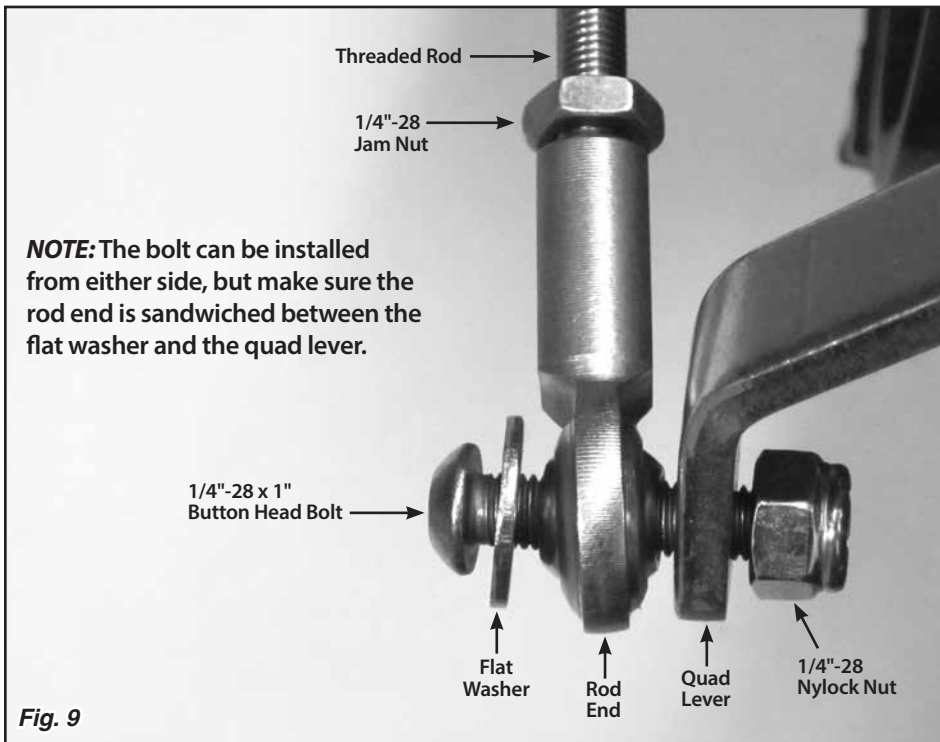
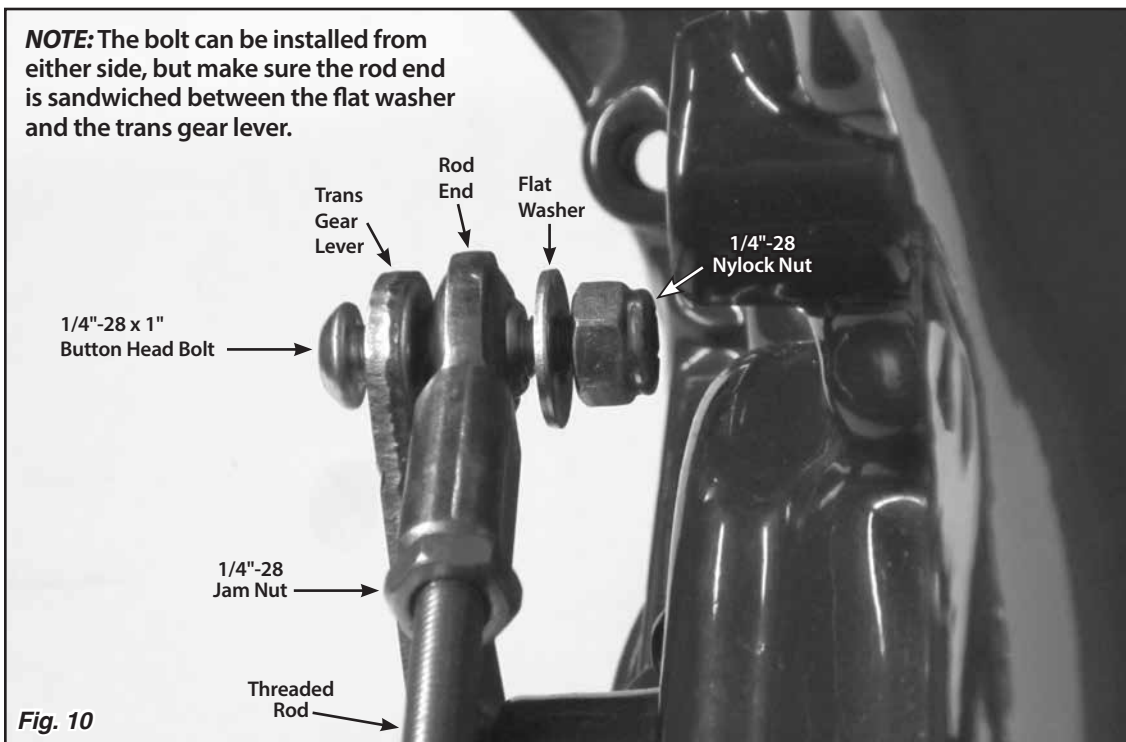

Fig. 9
Fig. 10
**Step 14:** Verify that both 1/4"-28 jam nuts are on the threaded rod, and install a rod end onto each end of the threaded rod. Attach the threaded rod assembly to the **inside** of the trans gear lever and to the **outside** of the quad lever using the 1/4"-28 x 1" button head bolts, flat washers, and nylock nuts as shown in **Fig. 9** and **Fig. 10**. The button head bolts can be installed from either direction, but make sure the rod end is sandwiched between the flat washer and the trans gear lever or quad lever.